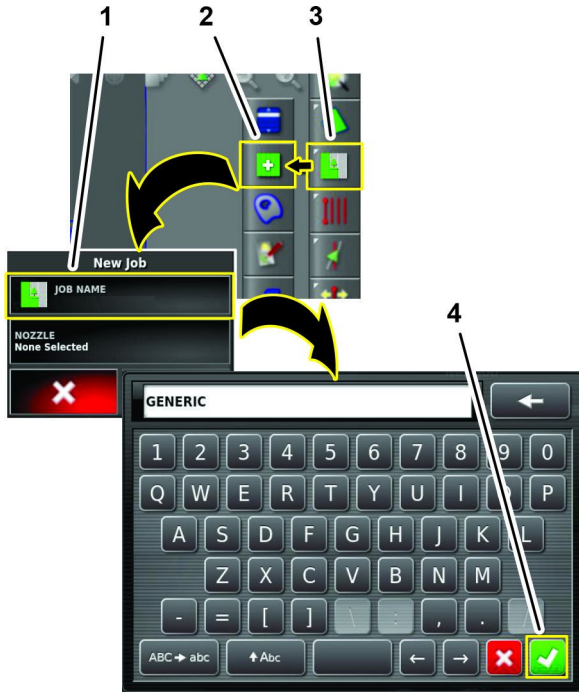

Figure 159
1. Press the Job Menu and press the CREATE NEW JOB icon (Figure 159).
2. Use on-screen keyboard to type a name for the generic job, and press the confirm icon (Figure 159).